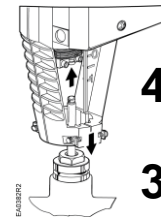

Figure 5.
**NOTE:** Make sure the yoke nuts are loose enough to allow the actuator to slip over the bonnet. See Figure 5.